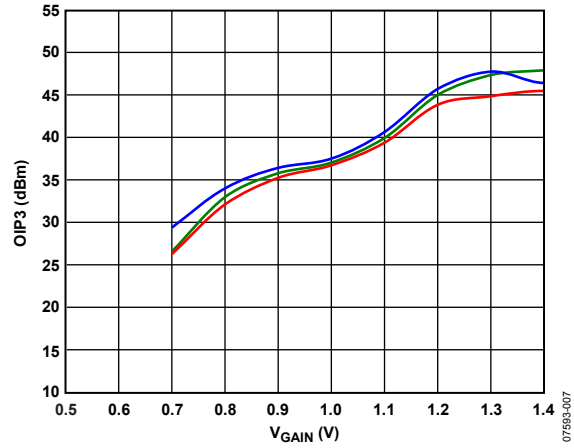
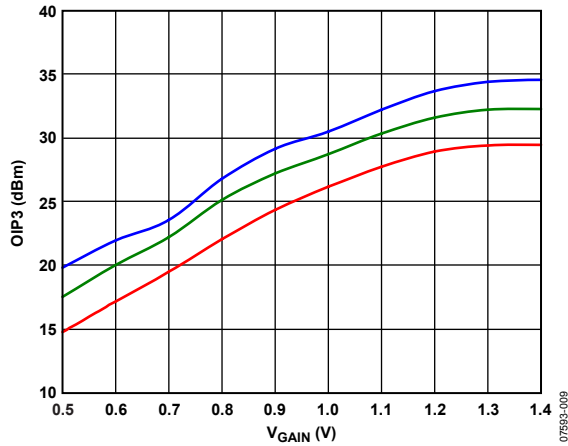

Figure 7. Output IP3 vs.  $V_{GAIN}$  at 100 MHz
Figure 9. Output IP3 vs.  $V_{GAIN}$  at 900 MHz
At high gain settings, the noise floor is set by the input stage, in which case the noise figure (NF) of the device is essentially independent of the gain setting. Below a certain gain setting, however, the input stage noise that reaches the output of the attenuator falls below the input-equivalent noise of the output stage. In such a case, the output noise is dominated by the output stage itself; therefore, the overall NF of the device gets worse on a dB-per-dB basis as the gain is lowered, because the gain is reduced below the critical value. Figure 7 through Figure 9 provide details of this behavior.
The 1 dB input compression point remains constant at 3 dBm through the majority of the gain control range, as shown in Figure 7 through Figure 9. The output compression point increases decibel for decibel with increasing gain setting. The noise floor is constant up to  $V_{GAIN} = 1$  V where it begins to rise.